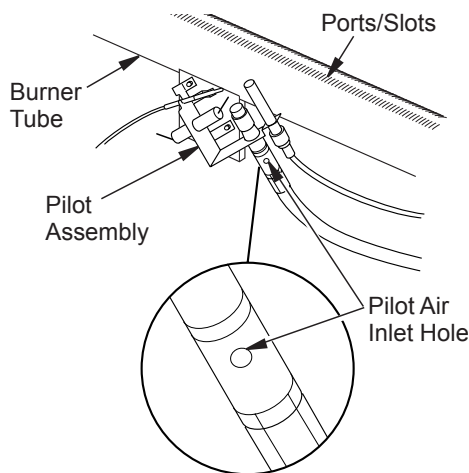

Figure 36 - Pilot Inlet Air Hole
3. Blow air through ports/slots and holes in burner (see Figure 36).
Clean pilot assembly also. A yellow tip on pilot flame indicates dust and dirt in pilot assembly. There is a small pilot air inlet hole about 2" from where pilot flame comes out of pilot assembly (see Figure 36). With unit off, lightly blow air through air inlet hole. You may blow through a drinking straw if compressed air is not available.